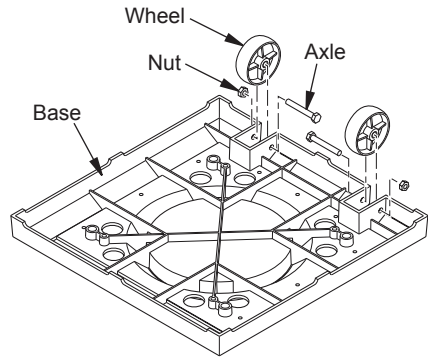

Figure 3 - Attaching Wheels to Base
1. Turn base upside down. Attach 2 wheels, 2 axles (I) and 2 nuts (J) as shown in Figure 3. Do not overtighten.